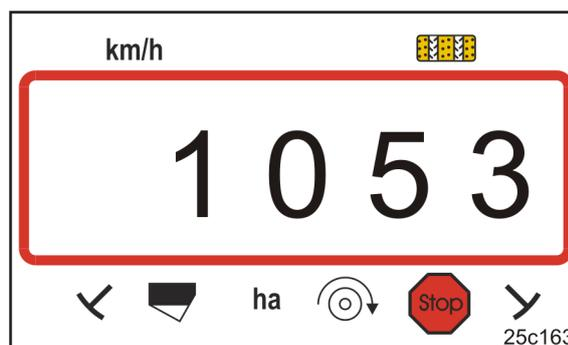

Fig. 21
- Display: stored calibration value (imp./100 m) e.g. 1053 (Fig. 21).